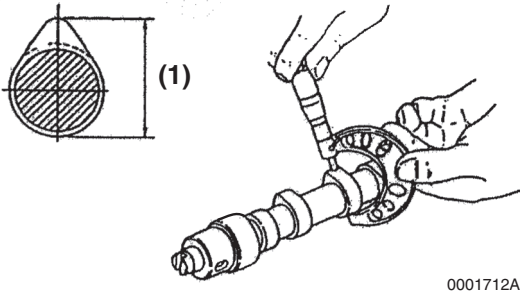

Figure 6-122
3. Measure the height of each lobe (**Figure 6-122, (1)**). See *Camshaft* on page 6-10 for specifications.